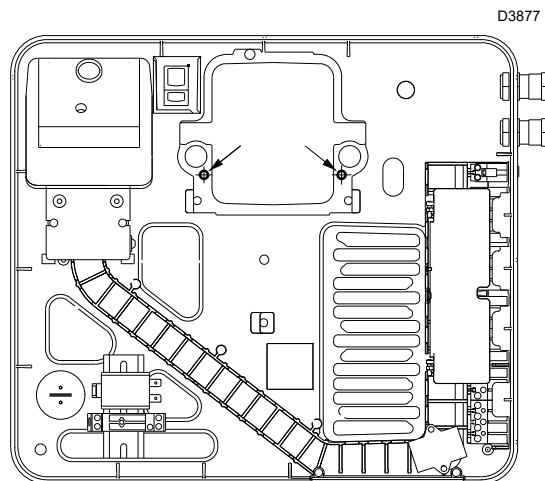
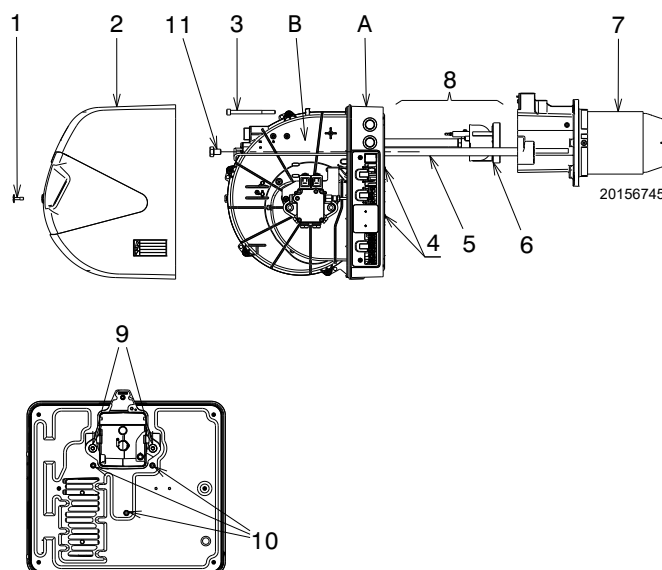

Fig. 28
Fig. 29
To extract the UV sensor 1) loosen the screws 2) and unhook the support 3), after removing the screws 4)(Fig. 29 on page 28).
- If the electrical panel requires maintenance (A)(Fig. 29) it is possible to remove only the fan unit (B)(Fig. 29) provide better access to the electrical components.
- With the burner open as in Fig. 29, disconnect the cables of the electrodes and remove the head assembly 8)(Fig. 29) unscrewing the two screws 9)(Fig. 29).
- Disconnect the fan motor cables, remove the 3 screws 10)(Fig. 29) on the protective cover and the 2 screws 11)(Fig. 29) and take out the fan unit B)(Fig. 29) from the slide bars 4) - 5)(Fig. 29).
- Finally, you can use 2 of the 3 screws 10)(Fig. 29) to fix the electrical panel to the pipe coupling at the points indicated in Fig. 28, and then carry out the maintenance operations.
- Draw back part A keeping it slightly raised so as not to damage the disc 6) on the blast tube 7)(Fig. 29).